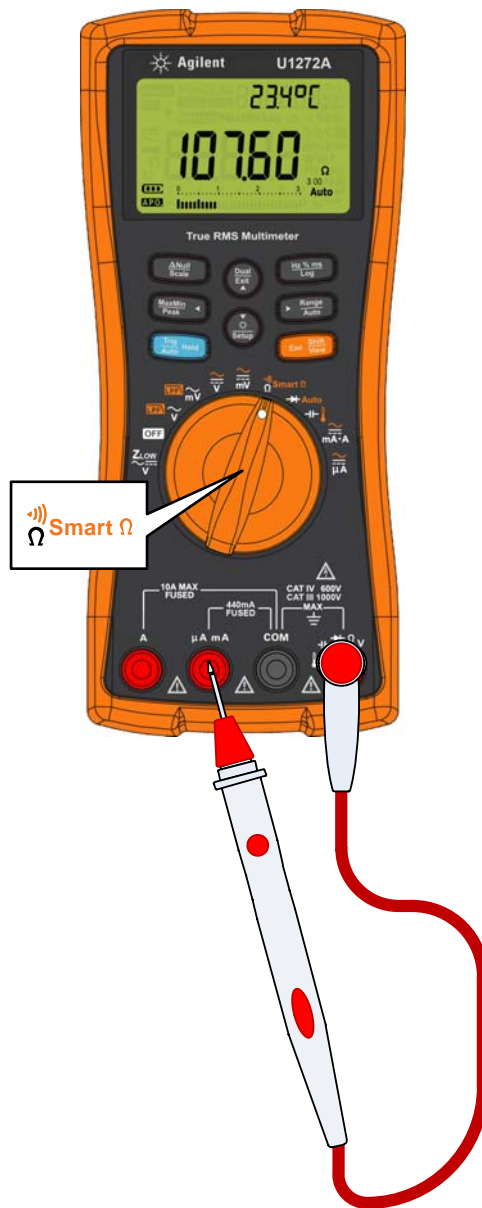

Figure 2-1 Testing Fuse 1
- 2 To test Fuse 1, place the tip of the test probe on the top half of $\mu\text{A mA}$ input terminal. Ensure that the probe tip touches the metal inside the $\mu\text{A mA}$ input terminal, as shown in Figure 2-1.